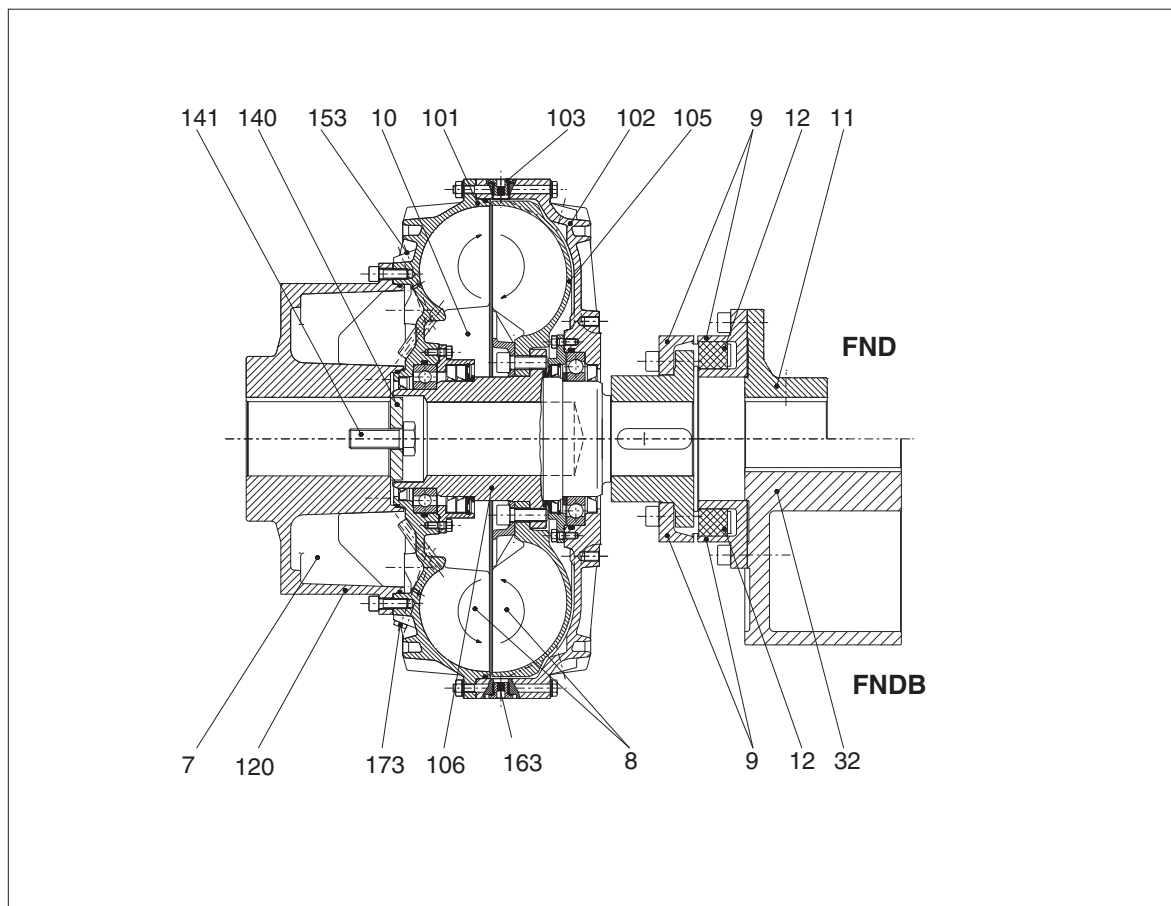

Fig. 3: General description of the "FN.." series
Before cleaning the coupling parts and applying the long-term preservative agent, the flexible elements (12) in figure 3 must be removed.